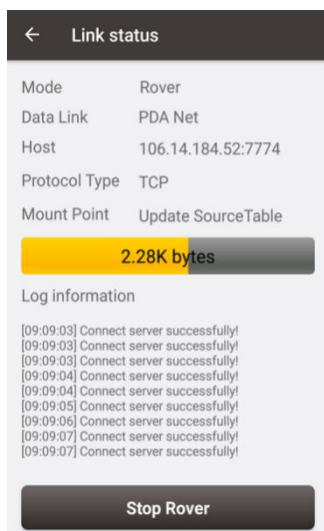

Figure 6.5 Rover is receiving RTK corrections
15. When all the configurations above are correct, the rover is receiving RTK corrections as shown in Figure 6.5.